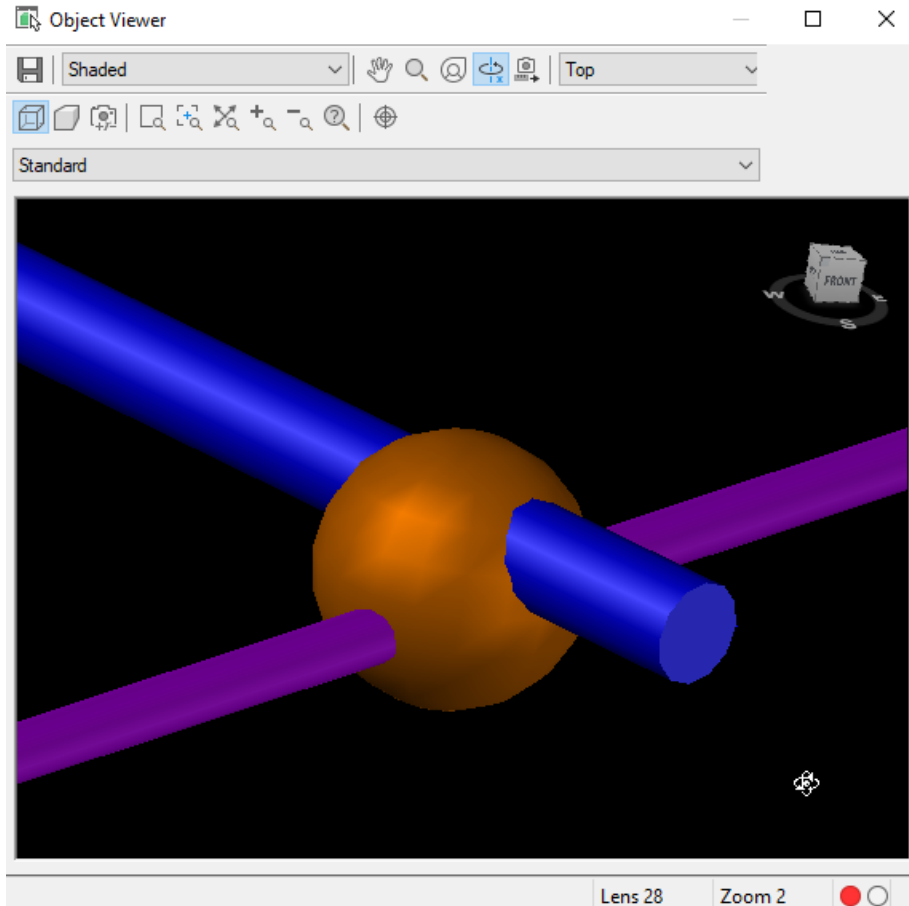

Figure 3.30 – Object Viewer of the interference
10. After selecting **Object Viewer...**, our **Object Viewer** dialog box will appear (refer to *Figure 3.30*), where we can apply different displays, views, and navigate around the interference to get a clear picture of how we need to update our model to ensure that it conforms to design requirements.